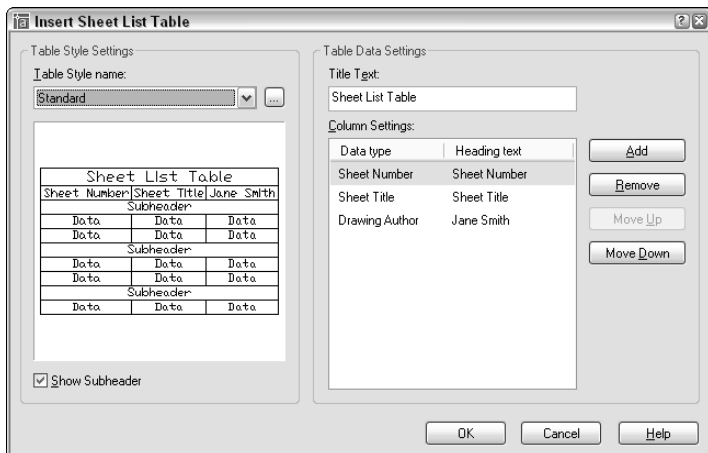

Figure 26-26: Use the Insert Sheet List Table dialog box to create a table that lists all the sheets in your sheet set.
3. Right-click the sheet-set name and choose Insert Sheet Set Table to open the Insert Sheet List Table dialog box, shown in Figure 26-26.